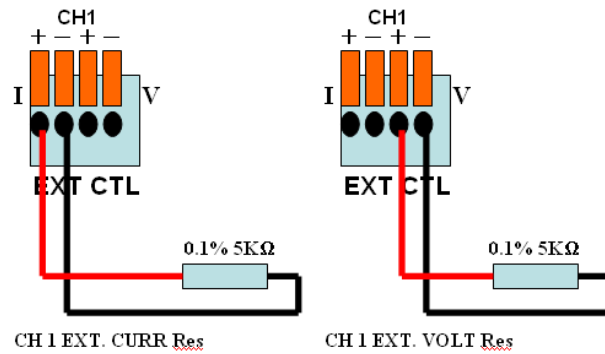

Figure 37- External Resistance Control Calibration setup (left) Current (right) Voltage
5. To begin calibration with the external resistor, remove the DC source and connect the precision resistor to the control card, as shown in Figure 37(right) below.
7. Once finished, **CH1 EXT. CURR Res** will be selected. Connect the precision resistor as shown in Figure 37(left). Press **Enter** to proceed with the calibration.